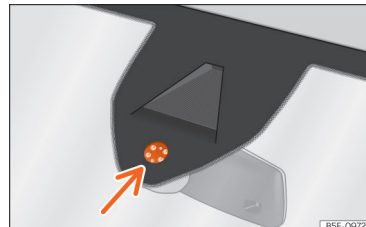

Fig. 77 Rain sensor sensitive surface
The possible causes of anomalies and erroneous interpretations *in the sensitive surface area* »» Fig. 77 of the rain sensor are, among others:
- **Dirt:** dry dust, wax, coating on glass (Lotus effect) or traces of detergent (car wash) may reduce the effectiveness of the rain sensor or make it react more slowly, later or not at all. Regularly clean the sensitive surface of the rain sensor »» Fig. 77 (arrow) and check for possible damage to the wiper blades.